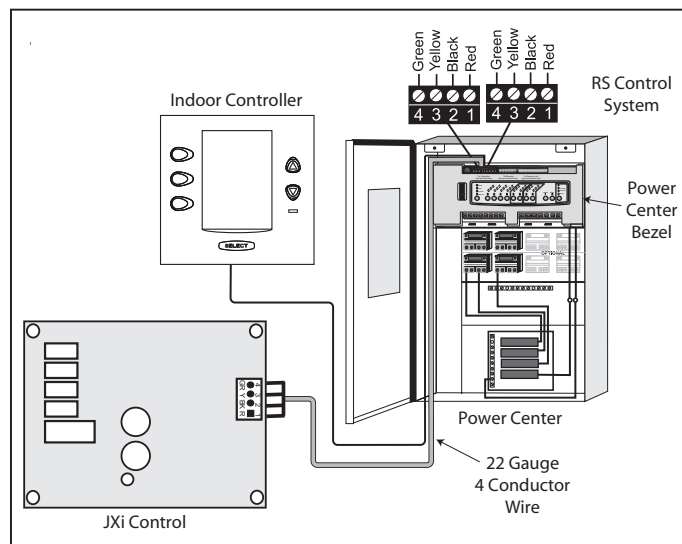

Figure 13. Wiring the JXi to a Zodiac® Remote
- Use 22 gauge 4-conductor wire to run between the heater and the RS control and match the wire color order. See *Figure 13*.